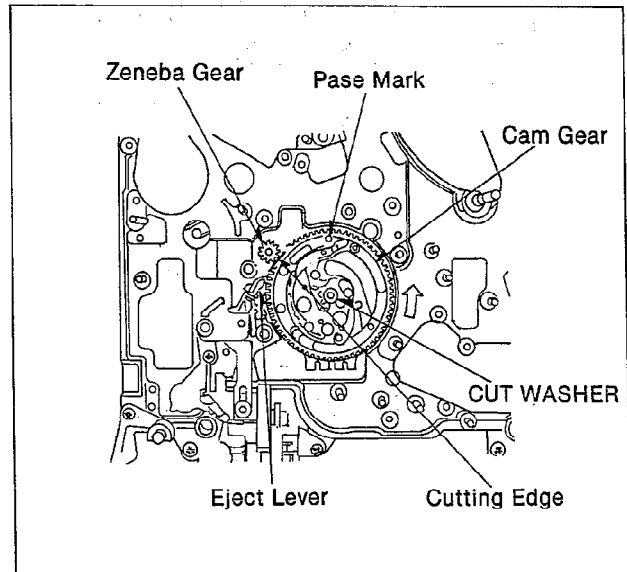

Fig. M3
- (1). Install a Cam Gear so that phase mark on the Cam Gear, with its point turned up, and then insert the Cut washer as shown in Fig.M3.